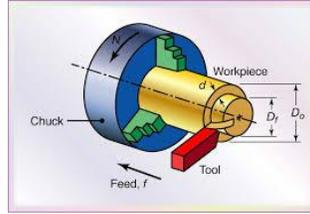

Figure Turn-8: hold the workpiece on a chuck
5. Hold the raw material with the chuck jaws in an appropriate and safe manner. See figure Turn-8.